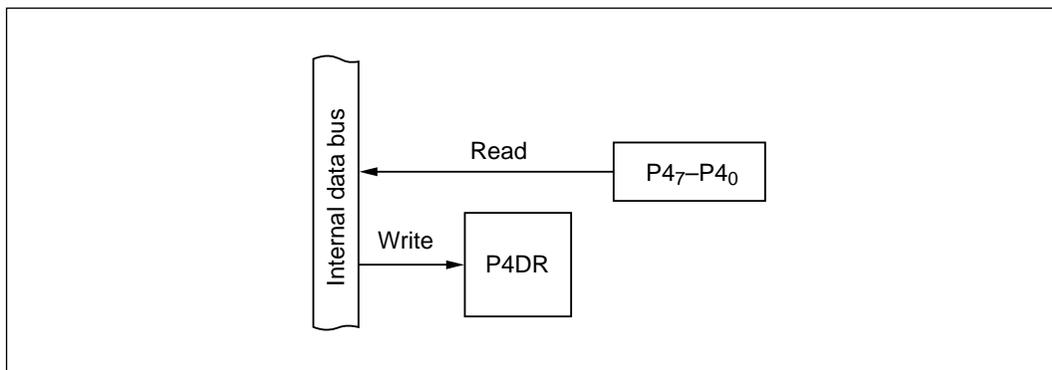

Figure 10-22 Input Port (Modes 1 to 7)
(1) **Input Port (Modes 1 to 7):** Figure 10-22 shows a block diagram illustrating the general-purpose input function. Table 10-16 indicates register read/write data. Values written in the port 4 data register (P4DR) have no effect on general-purpose input lines. When read, P4DR returns the value at the pin.